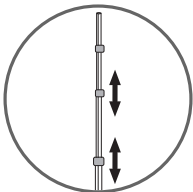

fig.1
2. Extend the pole to the maximum and tighten the clips - fig.1